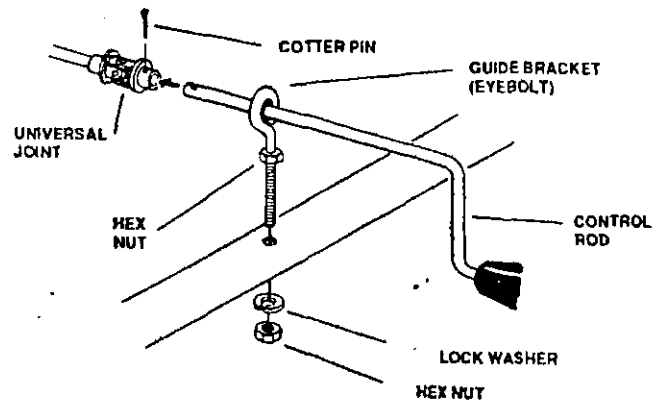

Fig. 1A
3. CHUTE ROTATION CONTROL ROD (See Figs. 1A & 1B).
c). Thread one (1) 5/16-18 nut onto guide bracket (eyebolt) to bottom of threads (Do not tighten).